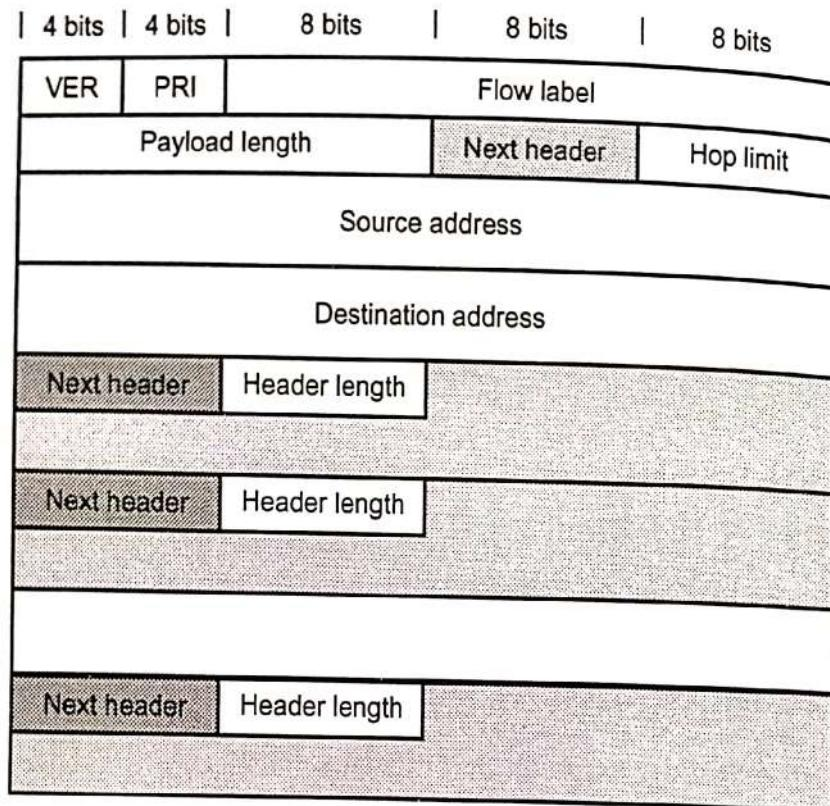

Fig. 3.4.1 : IPv6 header
- Fig. 3.4.1 shows the IPv6 datagram header format. Each packet is composed of a mandatory base header followed by the payload.